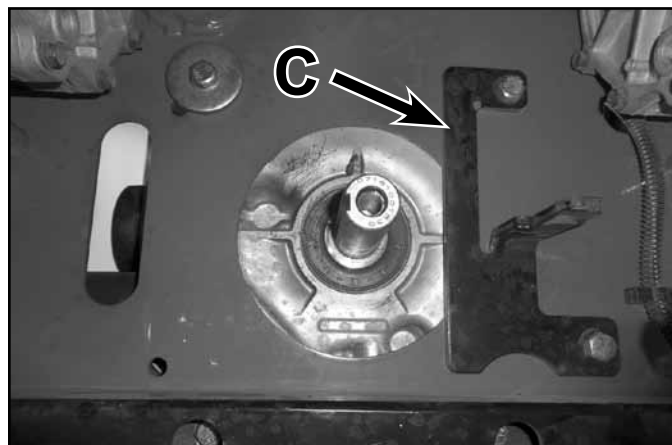

Fig. 051
11. Remove the (4) engine to frame mounting bolts. Make note of clutch stop bracket (C) mounting and orientation (Fig. 051).